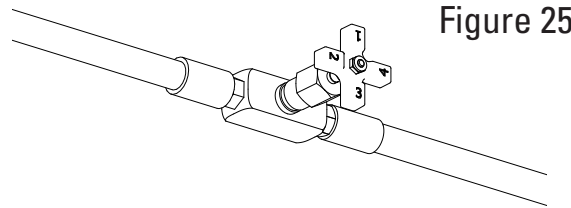

Figure 25
2. Turn off all auxiliary line valves or disconnect all tower and auxiliary cylinders from system, Figure 25.